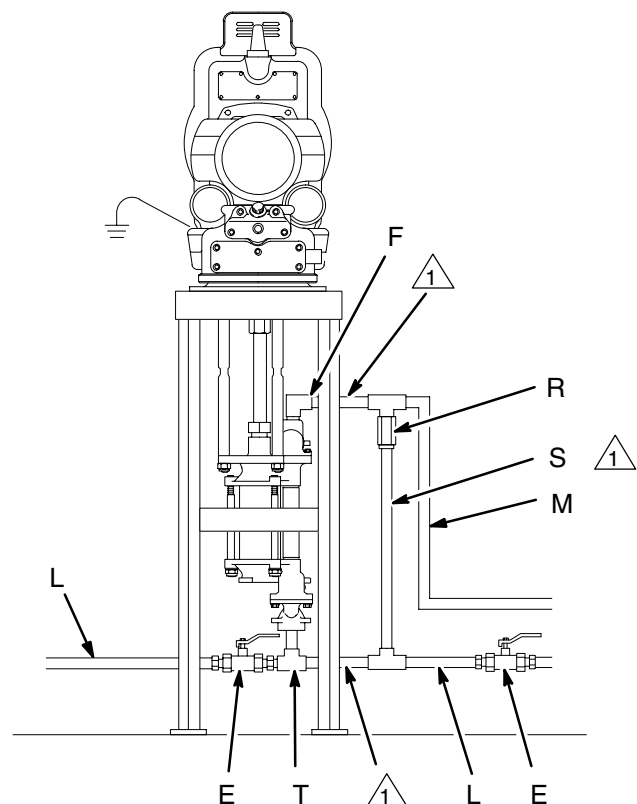

Fig. 4
In non-circulating systems with a fluid outlet that can be closed off (causing the pump to stall), install a fluid pressure relief valve (R) and a return line (S) leading back to the fluid supply line (L). See Fig. 4.